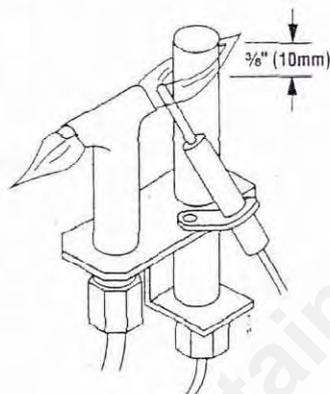

Figure 28
Approximately the top  $\frac{3}{8}$ " (10 mm) of the pilot generator (thermopile) should be engulfed in the pilot flame (Figure 28).
Visually inspect pilot. Brush or blow away any dust or lint accumulations. If pilot orifice is plugged, disassembly may be required to remove any foreign material from orifice or tubing. When appliance is put back in service, check pilot flame patterns with Figure 28.
2. Adjust pilot screw to provide properly sized flame (Figure 28).
B. Defective or misaligned electrode at pilot. (Spark at electrode.)	Using a match, light the pilot. If pilot lights, turn off pilot and trigger the red button again. If pilot lights - an improper gas mixture caused the bad lighting and a longer purge period is recommended. If pilot does not light - check gap at electrode and pilot - should be 1/8" to have a strong spark. If OK, replace pilot assembly (Figure 28).